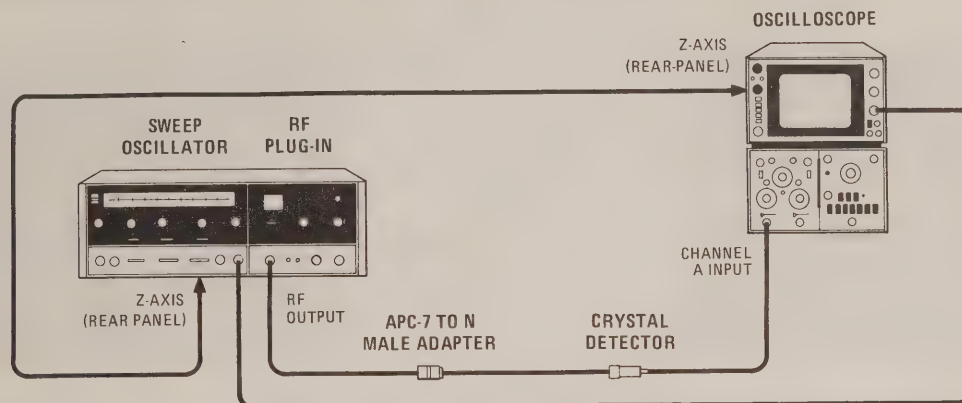

Figure 4-14. Frequency Markers Test Setup
- Connect equipment as shown in Figure 4-14.